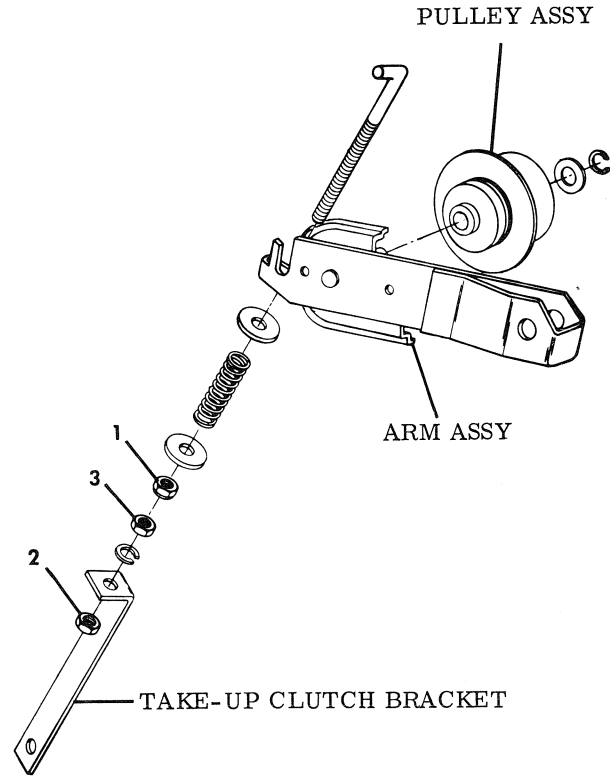

Figure 3-20. TAKE-UP CLUTCH ARM COMPLETE
7. Take-up Clutch Arm Complete (Figure 3-20)